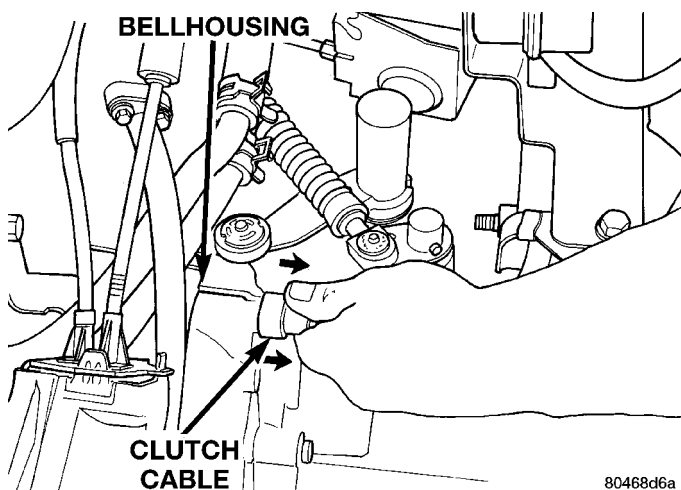
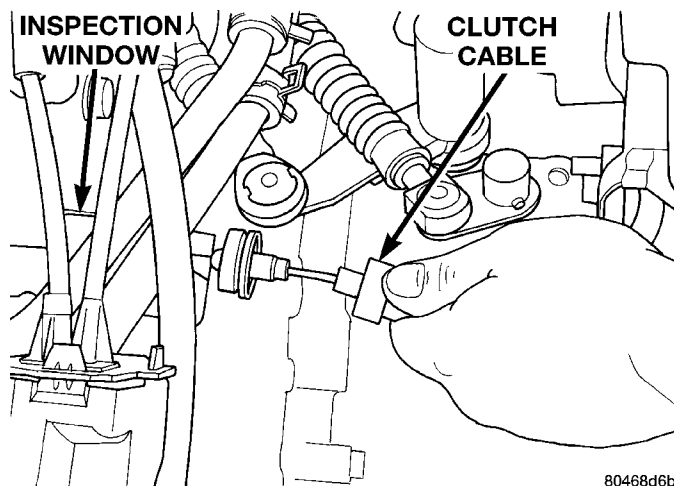

Fig. 24 Pull Clutch Cable Backward
Fig. 25 Remove Clutch Cable From Lever
- (7) Remove clutch housing vent cap, exposing the clutch cable end and clutch release lever. Then remove clutch cable from transaxle bellhousing (Fig. 24) (Fig. 25).